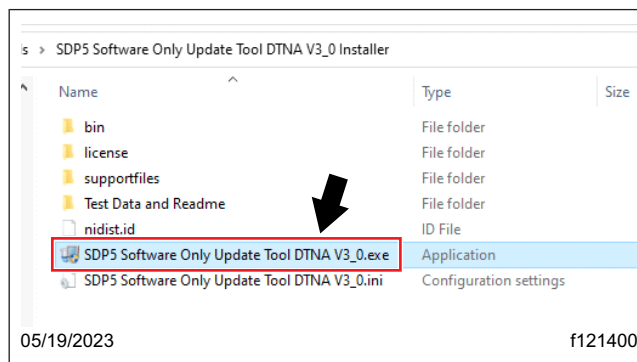

Fig. 7, Selecting and Running the Setup File
- The extracted contents are shown in a new window. Double-click to run the 'SDP5 Software Only Update Tool DTNA V3.0.exe' application file. See Fig. 7.